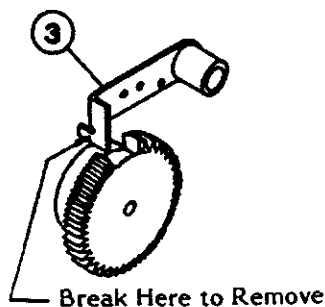

Figure 8: Cam Follower Arm
4. Break cam follower arm tab as indicated in Figure 8.